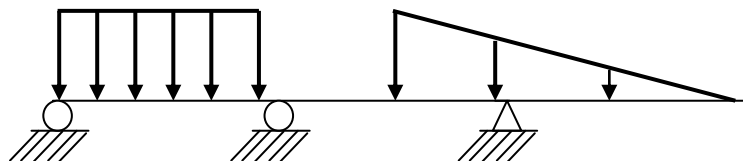

Figure 2.5
2. Distributed load - Figure 2.5